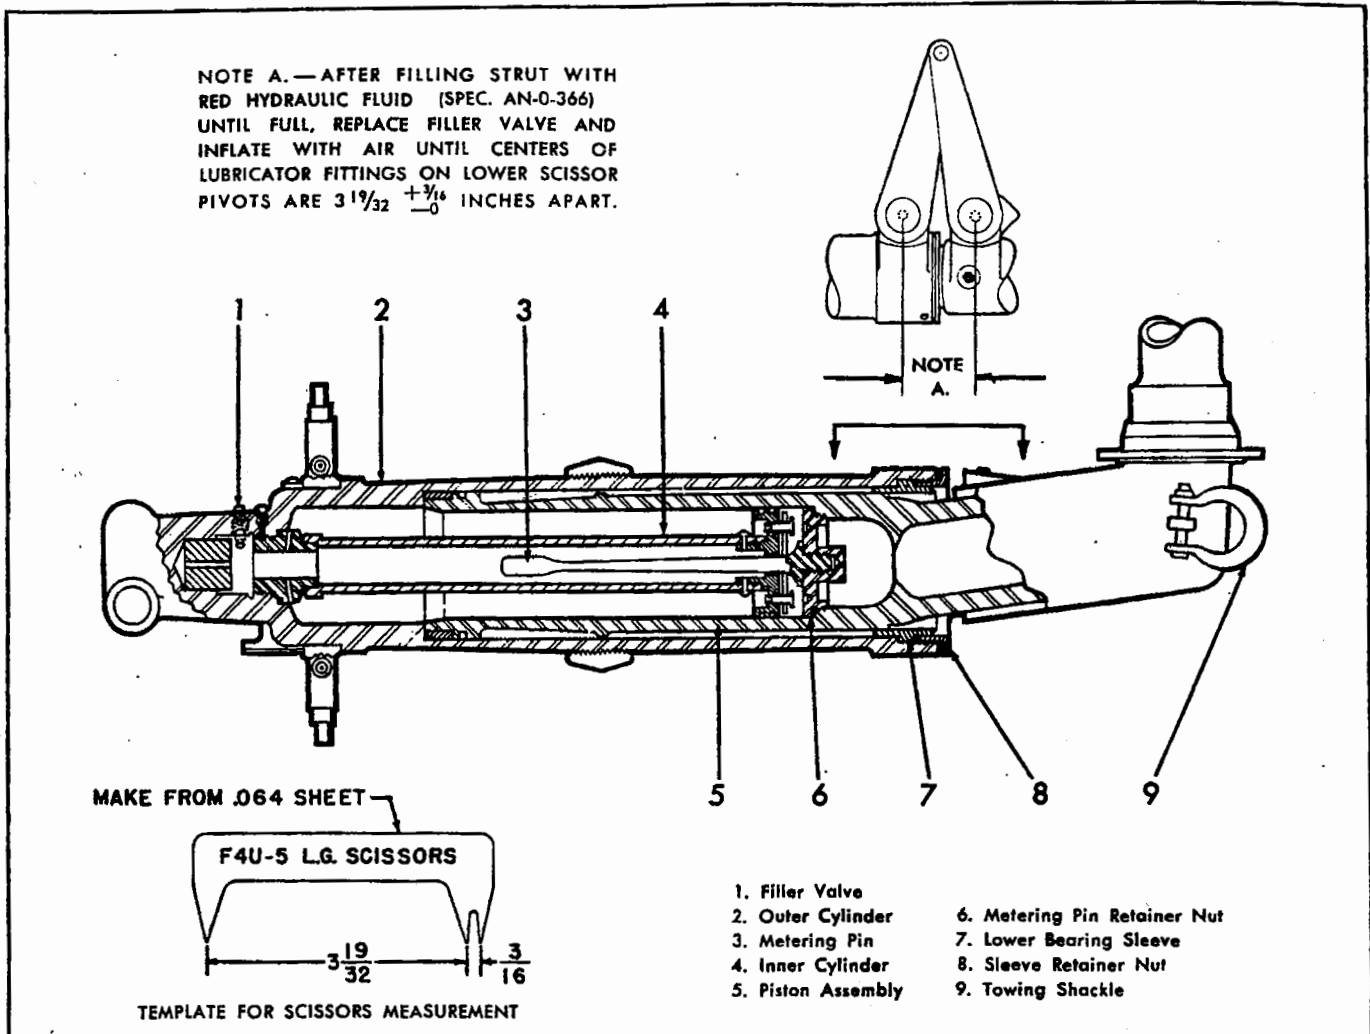

Figure 4-46. Main Landing Gear Shock Strut.
4-326. DISASSEMBLY. (Refer to figure 4-46). Disassembly of main landing gear shock strut may be accomplished on bench or while shock strut is installed on airplane. The following special tools are used:
4-329. FILLING PROCEDURE. (See figure 4-46.)
c. Replace filler valve and apply air pressure through the valve until the centers of the lubricator fittings on the lower scissors pivots are 3 19/32 inches (plus 3/16, minus 0 inches) apart; see figure 4-46. In this way, even though the strut is serviced while the airplane is empty, there remains a small air cushion between piston top and cylinder to prevent bottoming during normal taxiing after the airplane has been loaded.
d. It is recommended that a checking gage similar to that shown on figure 4-46 be fabricated from .064 stock to aid in checking this dimension.